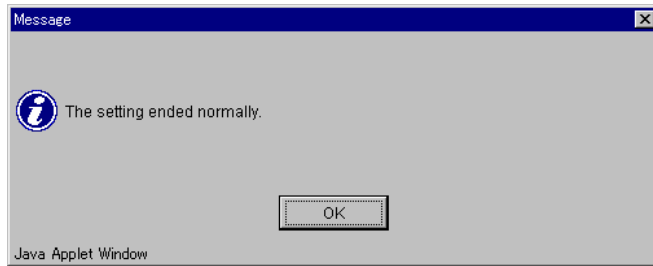

Figure 4.13 Message Window
4. When the registration completion Message dialog box displays, click **OK**. See Figure 4.13.